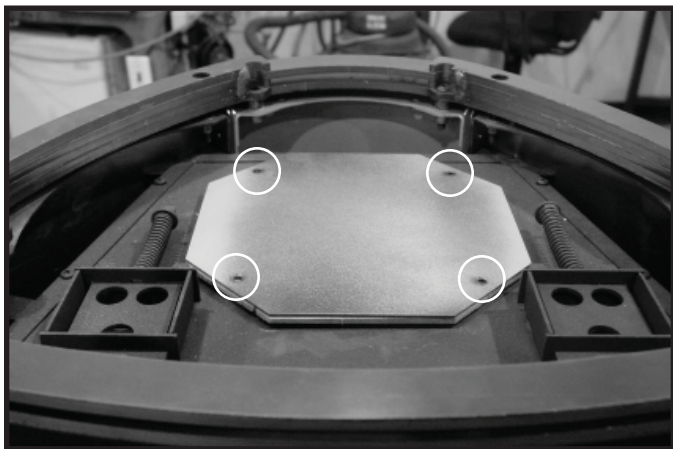

Figure 8.13
9. Install the cover plate removed from the rear of the appliance to the top of the appliance with the screws previously removed. (Figure 8.13).